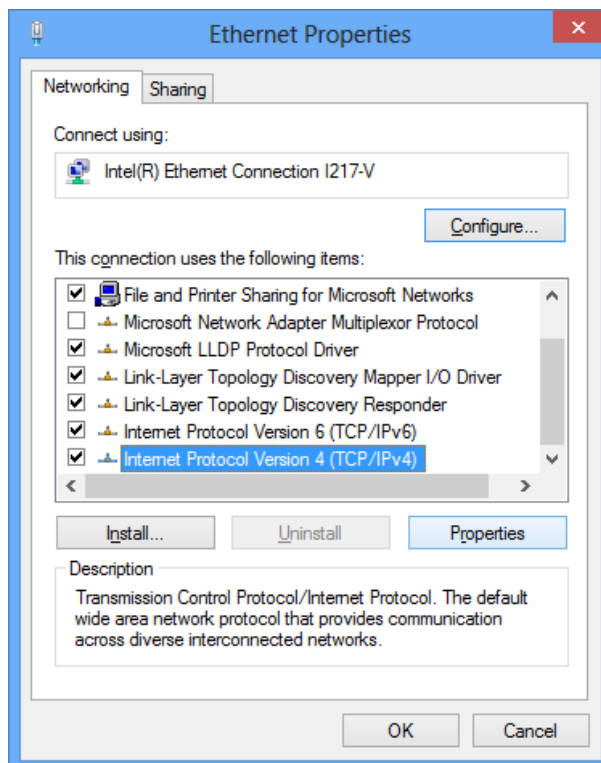

Fig. 10.4: Property window of the "Internet Protocol Version (TCP/IPv4)".
- d. Click on "Internet Protocol Version (TCP/IPv4)" and select "Properties", as in Fig. 10.4.